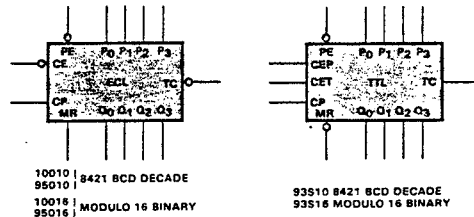

Fig. 2. Examples of Programmable Counters
Pulse swallowing has been described as a way of combining a counter that is very fast, but rather dumb, with a counter that is very smart, but rather slow, to make the rest of the logic think that there is a very fast, very smart counter up front. For purposes of discussion, a smart counter is defined as one that is fully programmable and directly or indirectly satisfies a few other requirements. Examples are the 10010/16 and 95010/16 ECL circuits and the 93S10/16 TTL elements illustrated in *Figure 2*. Each circuit has a Terminal Count (TC) output which is normally in the inactive state and goes to the active state (LOW for ECL, HIGH for TTL) when the circuit reaches its maximum count, and stays active as long as the circuit retains the maximum count. Each circuit has an active-LOW Parallel Enable (\overline{PE}) input and individual Preset data (P_n) inputs for the four flip-flops. A LOW signal on \overline{PE} inhibits counting and enables synchronous presetting. A Count Enable (CE) input can prevent counting but cannot prevent presetting. Thus the synchronous operating modes of these circuits are Count Up, Hold and Preset, all of which are utilized in either a straightforward programmable counter or